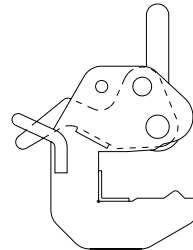

Fig. 24.2
1. Open the safety lever as far as possible (Fig. 24.2).